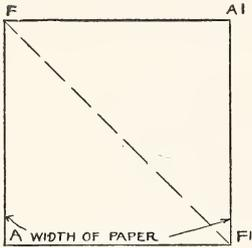
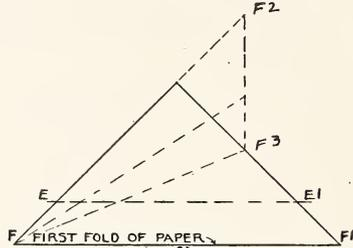
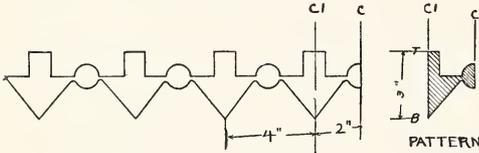
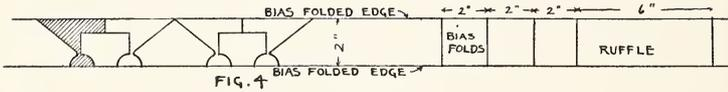

FIG. 1
FIG. 2
FIG. 3
FIG. 4
For practice work, take a square piece of paper, any size will do, the larger the better, Plate 12, Figure 1, and fold the corner A over to A1 and you will have the same as Figure 2 F, F1 being the folded edge, which is the true bias.
We will select a simple arrow-point-and-ball design which will be four inches from point to point of the arrows, Figure 3.
The pattern must be half of the design or 2 inches from C to C1 and 3 inches from T to B. Now measure as on Figure 2 from F to E and from F1 to E1, 2 inches, and fold over and over on this line until you have a folded strip 2 inches wide, Figure 4. Now place the pattern of Figure 3 on the folded strip, Figure 4, and lay out and mark the design the full length of the strip and cut out the entire strip until the desired length of applique is obtained.
Remember that the fold E, E1 to F, F1 on Figure 2, must be just half of the width of the design and the pattern must be for half of the design desired.
(Note that Figures 1 and 2, showing the paper, are drawn to a much smaller scale. Do not let this confuse you.)
**Note Bias Folds and Ruffings**, which require a great deal of time to make the old way, are cut in the same manner as applique by folding the material as you did for Figure 4 and measuring the width desired, being careful to keep your line straight across the folded edges, otherwise you will have crooked lines when cut apart. See Figure 4, Plate 12.
We will fold the paper and cut a plain circular ruffle. Fold your paper just as you did for the plain applique A to A1 in Figure 1. Now fold F1 on the right side over to F2, which gives you F3. Now fold F3 over to F2 line again and you have your paper folded as in Figure 5. Now start at the bottom and make a mark at A, Figure 5, and hold your tape at the point C. Then transfer the same length over to A1; this is to get a perfect circular.
Very often an extremely full circle is desired. This is obtained by marking the second fold on Figure 2 F to F1, then using C1 as the center or point, then cutting the ruffle as in Figure 5.
Never fit the waist line closely; a waist and tunic or a waist and skirt joined together and semi-loose will always give a slender effect. Long narrow vest front with flat neck finish or narrow semi-rolling collars are always good, as also is the surplus waist or dress. When fullness is added to the front of a garment at the shoulder, it is better to bring the shoulder seam forward, as this will make the shoulders seem smaller. (See Plate 6, Figures 3 and 4.) If plaits are used, then the shoulder seam should remain in normal position. If the hips are large, let the shoulders and hem of skirt be the main widths of a design. Never add any fullness that will give added width to the hips or waist. For a figure that is large in the shoulders and bust, use a short shoulder length, flat neck finish, V, U or square neck line with full tunic or skirt without defining the waist line.